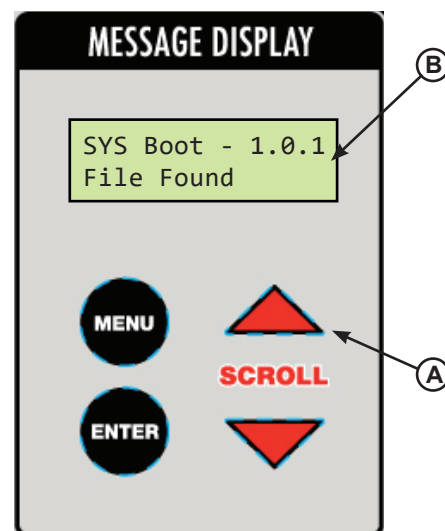

Figure 2
6. Press and hold the UP button (A) on the control box (see Figure 2).
7. While holding the UP button (A) on the control box, restore power to the controls.
8. When Message Display (B) shows "File Found," release UP button (A, see Figure 2).